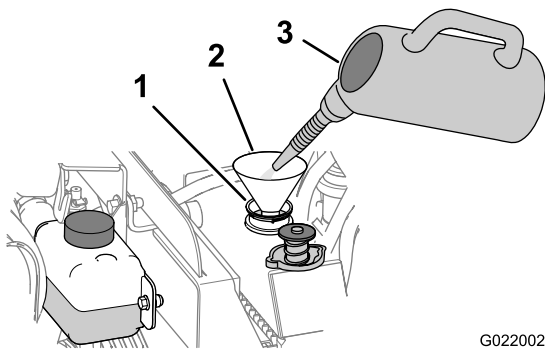

Figure 103
- B. Add a cooling system cleaning solution to the radiator through the filler neck (Figure 103).